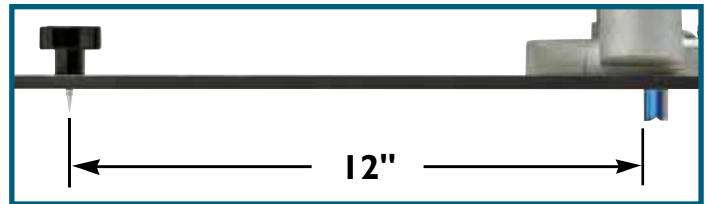
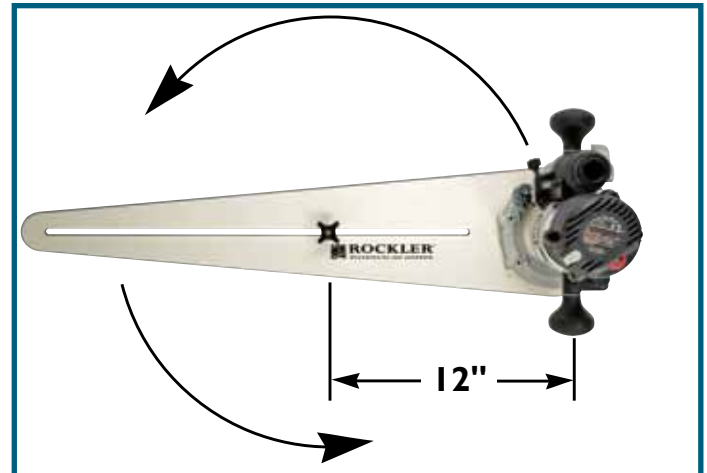

Fig. 2 - Side view of jig setup to make a 24" circle with 1/2" bit
Fig. 3 - Top view of jig setup to make a 24" circle with 1/2" bit
5. The radius of your circle is the distance from the inside edge of the router bit to the center of the pin. **Fig. 2.** Set router to depth of cut and rout in a counterclockwise direction. **Fig. 3.**